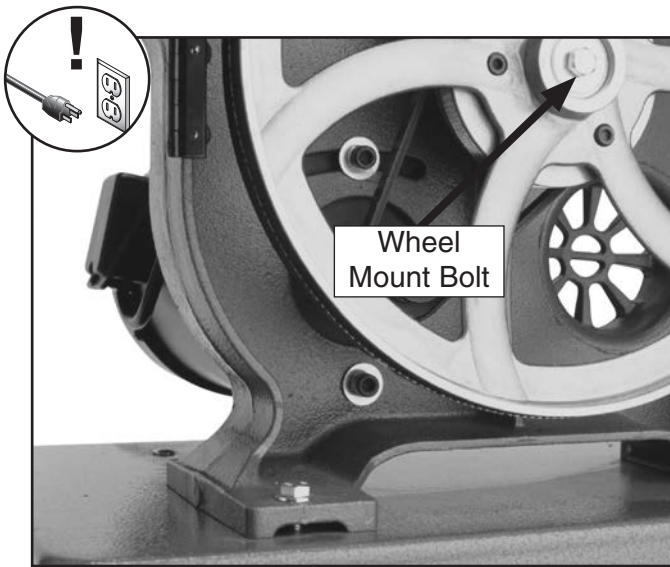

Figure 44. Wheel mount bolt.
4. Loosen the motor mount bolts shown in **Figure 44**.
7. Unthread the wheel mount bolt shown in **Figure 44**, and slide the lower wheel off of the bearing shaft.